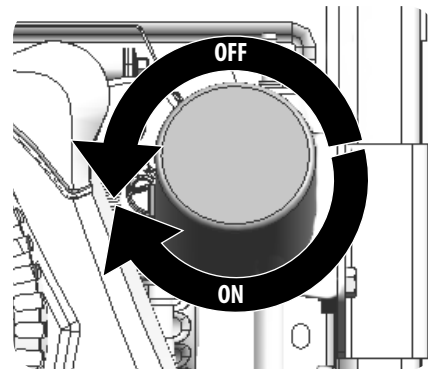

Figure 4-2
7. Locate the oil filter on the oil filter adapter bracket inside the RH console. See Figure 4-2.